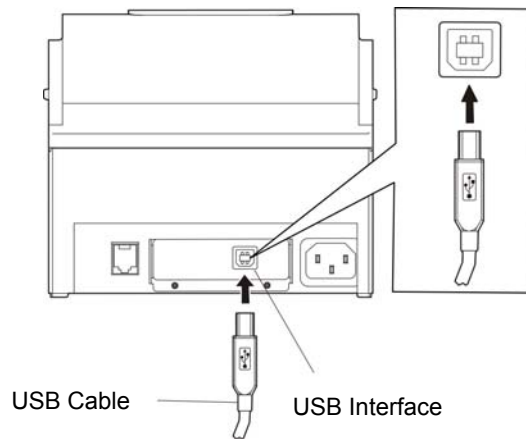

Figure 2-4 Connecting the USB cable
2. Plug the B end of USB cable (square shape) into the printer's USB interface connector. (As shown in Figure 2-4)